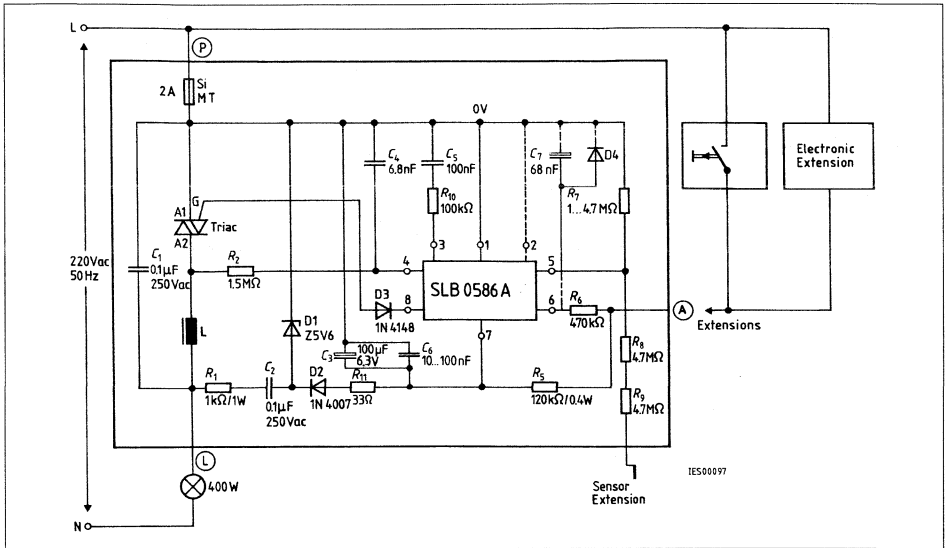

Figure 3
- Filtered signal for synchronization of the internal time base (PLL circuit) with line frequency (R_2 , C_4). For specific applications C_4 can be increased up to 33 nF, so that the lamp gets darker (refer to figure 3).